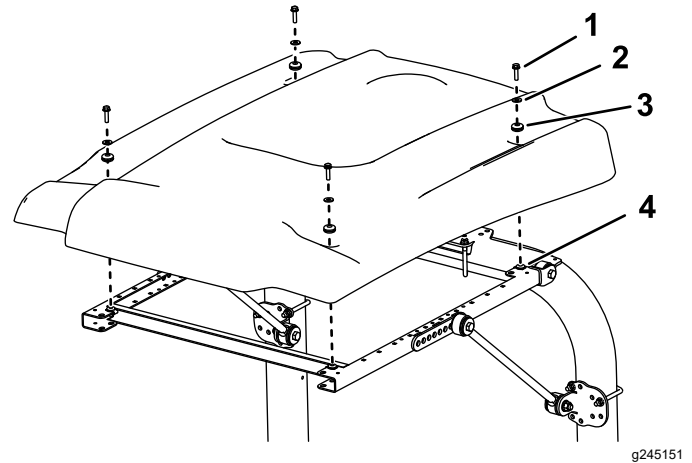

Figure 6
- While aligning the mounting holes, position the sunshade onto the frame as shown in Figure 6.
- Loosely mount each corner of the sunshade to the frame with a flange-head bolt (5/16 x 1-1/4 inches), a small washer, and a grommet (Figure 6).